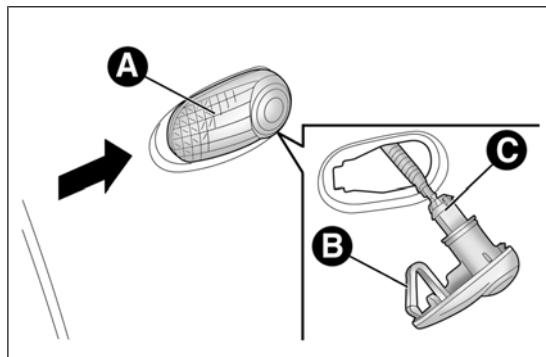

fig. 135
- ❑ operate lens A fig. 135 in order to compress clip B, then pull the unit outwards;